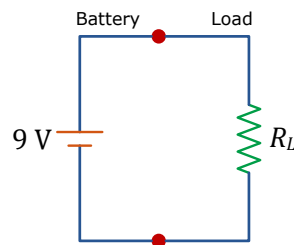

Figure 3.2: Simple circuit with ideal battery connected to a load.
- 2 Consider the simple circuit of Figure 3.2. What is the current that flows through resistor R_L ?